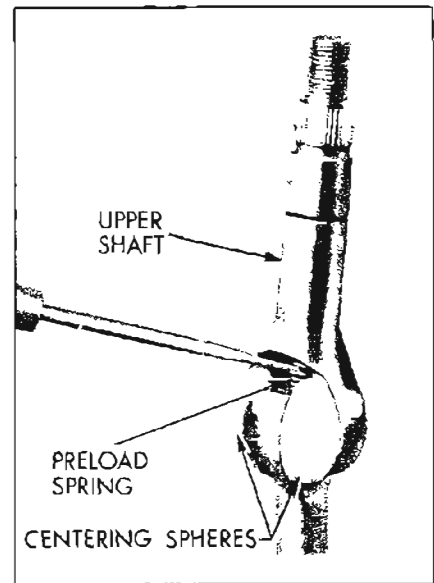

Figure 8-90—Removing Joint Preload Spring
2. Using a narrow bladed screwdriver, compress joint preload spring enough to remove from upper shaft, then remove spring from centering spheres. See Figure 8-90.